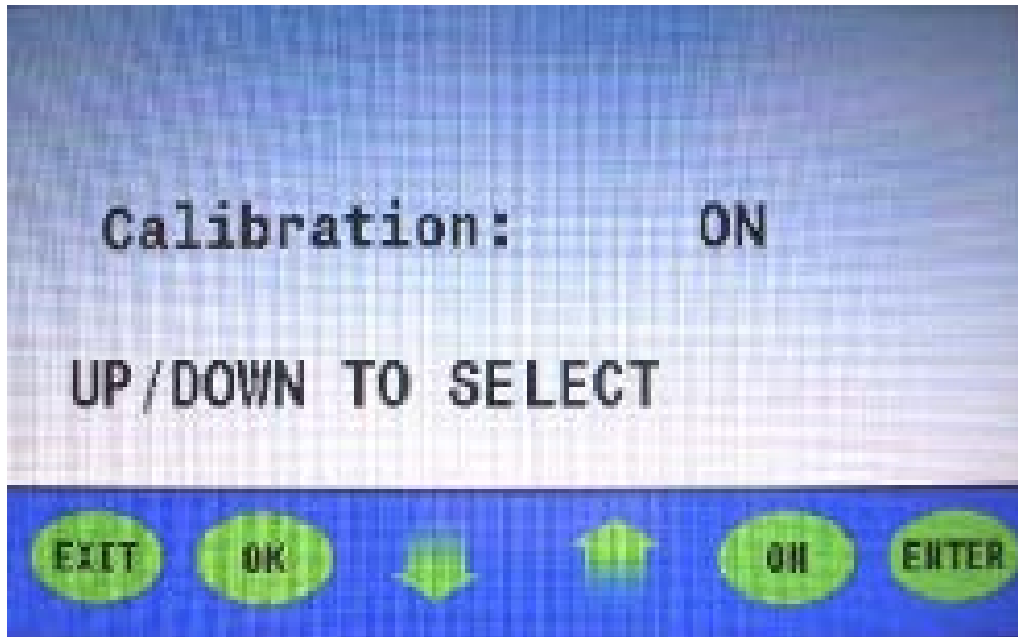

Figure 9
26. Press the **up or down arrow**; change “Table” to “ON” (**figure 9**). Press the **Enter button**.